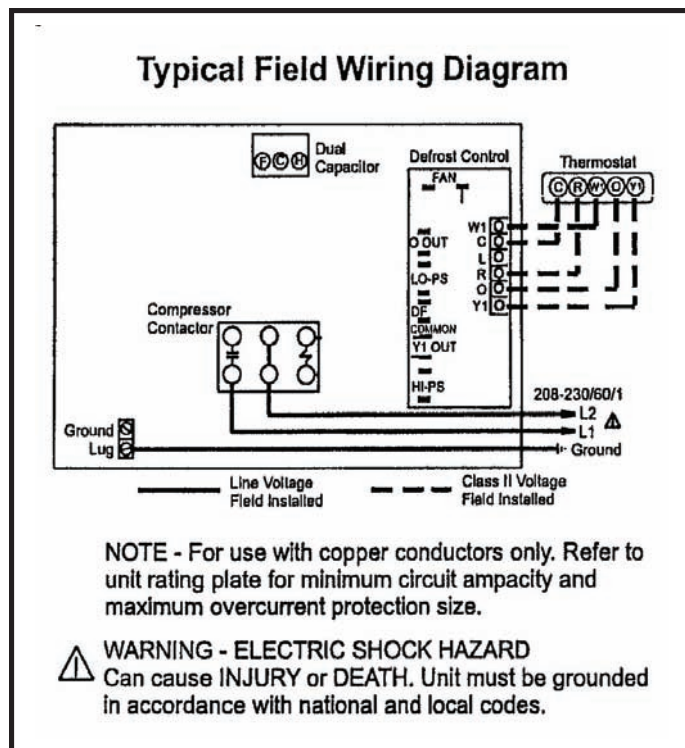

Figure 4
2. Ground unit at unit disconnect switch or to an earth ground. To facilitate conduit, a hole is in the bottom of the control box. Connect conduit to the control box using a proper conduit fitting. Units are approved for use only with copper conductors. 24V Class II circuit connections are made in the low voltage junction box. Refer to Figure 4 for high voltage field wiring diagram. A complete unit wiring diagram is located inside the unit control box cover.